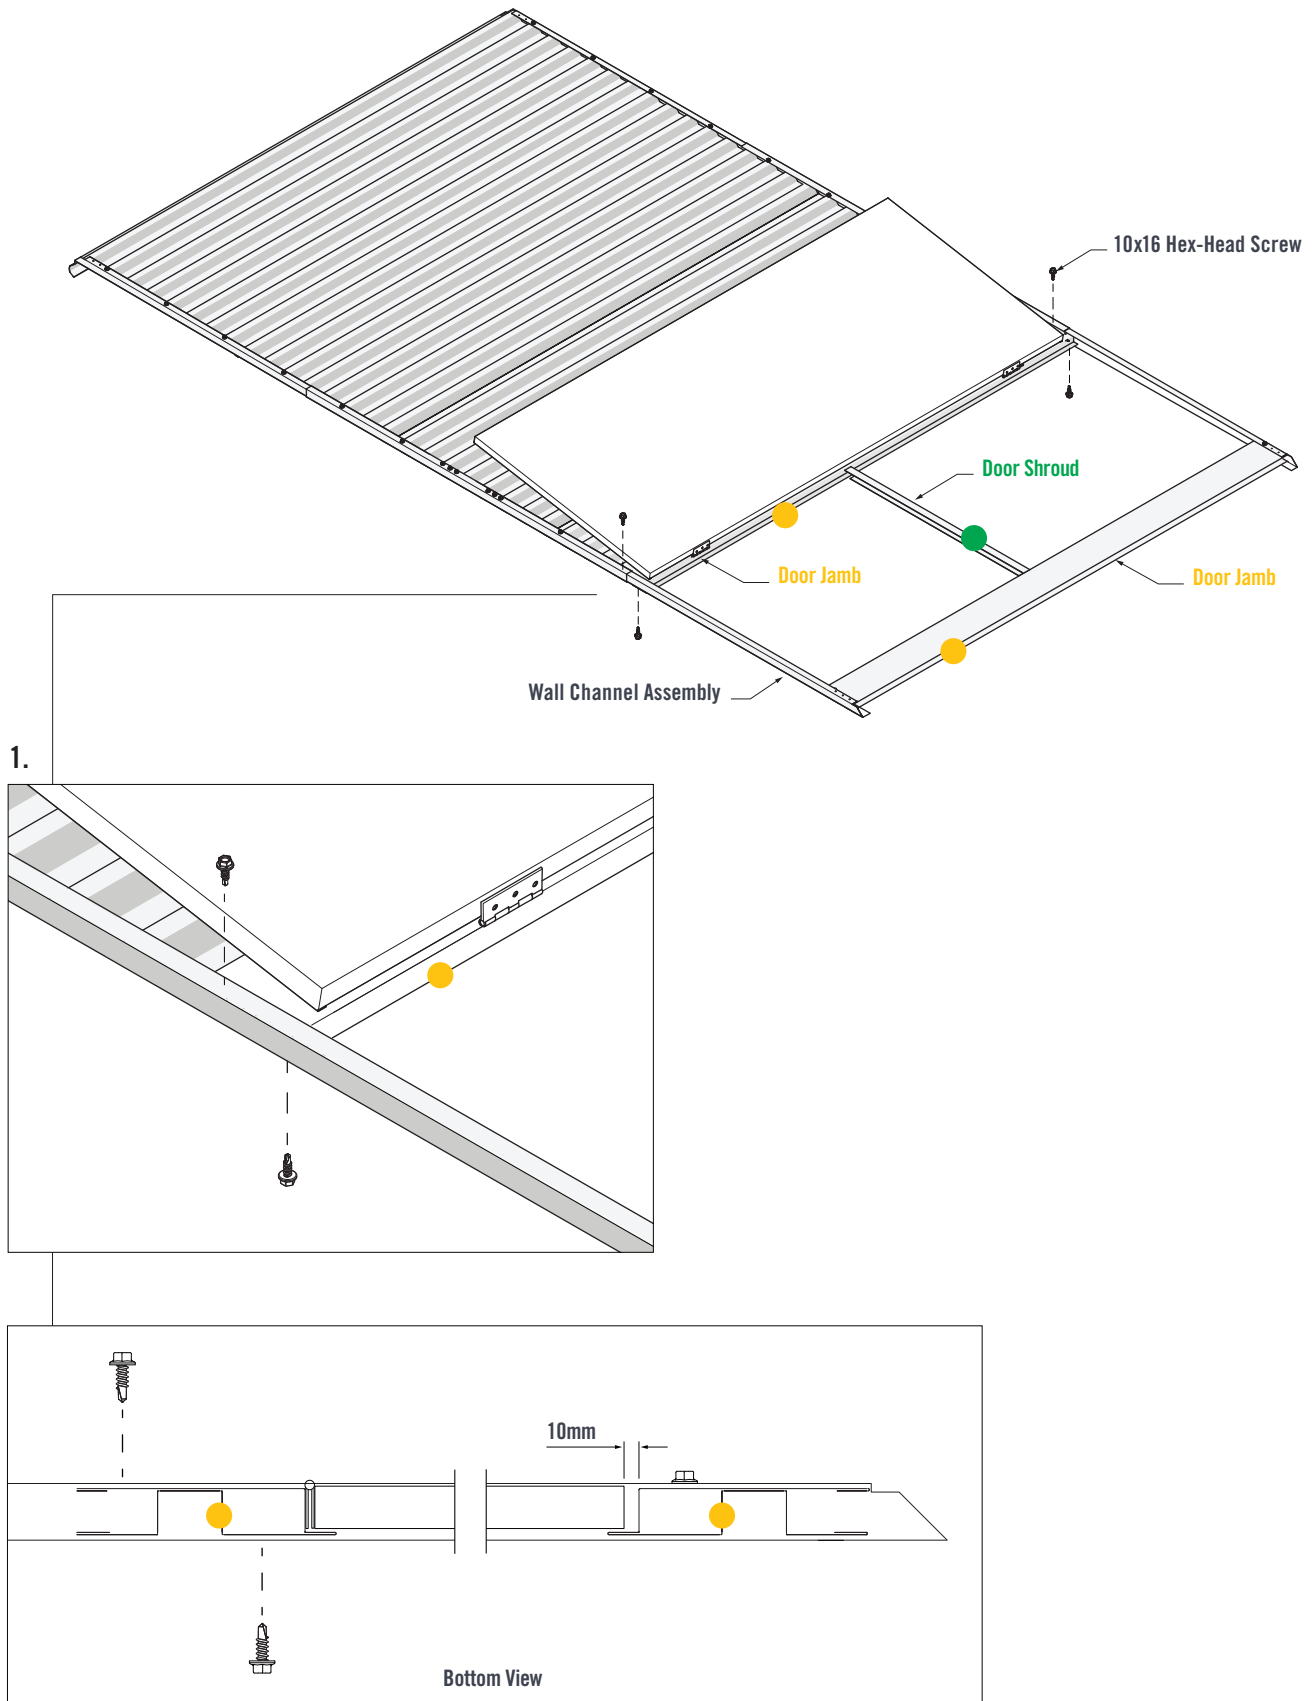

FIGURE 4.3
With the Door open, fit the **Door Shroud** in-between the **Door Jamb**s. Use the **Door Shroud** as a guide to set the correct spacing between the **Door Jamb**s (Figure 4.3).
1. Fasten two 10x16 self-drilling screws through both **Wall Channels** and into the **Door Jamb**. Close the Door and ensure an approximate 10mm gap between the edge of the Door and end **Door Jamb** (Figure 4.3).